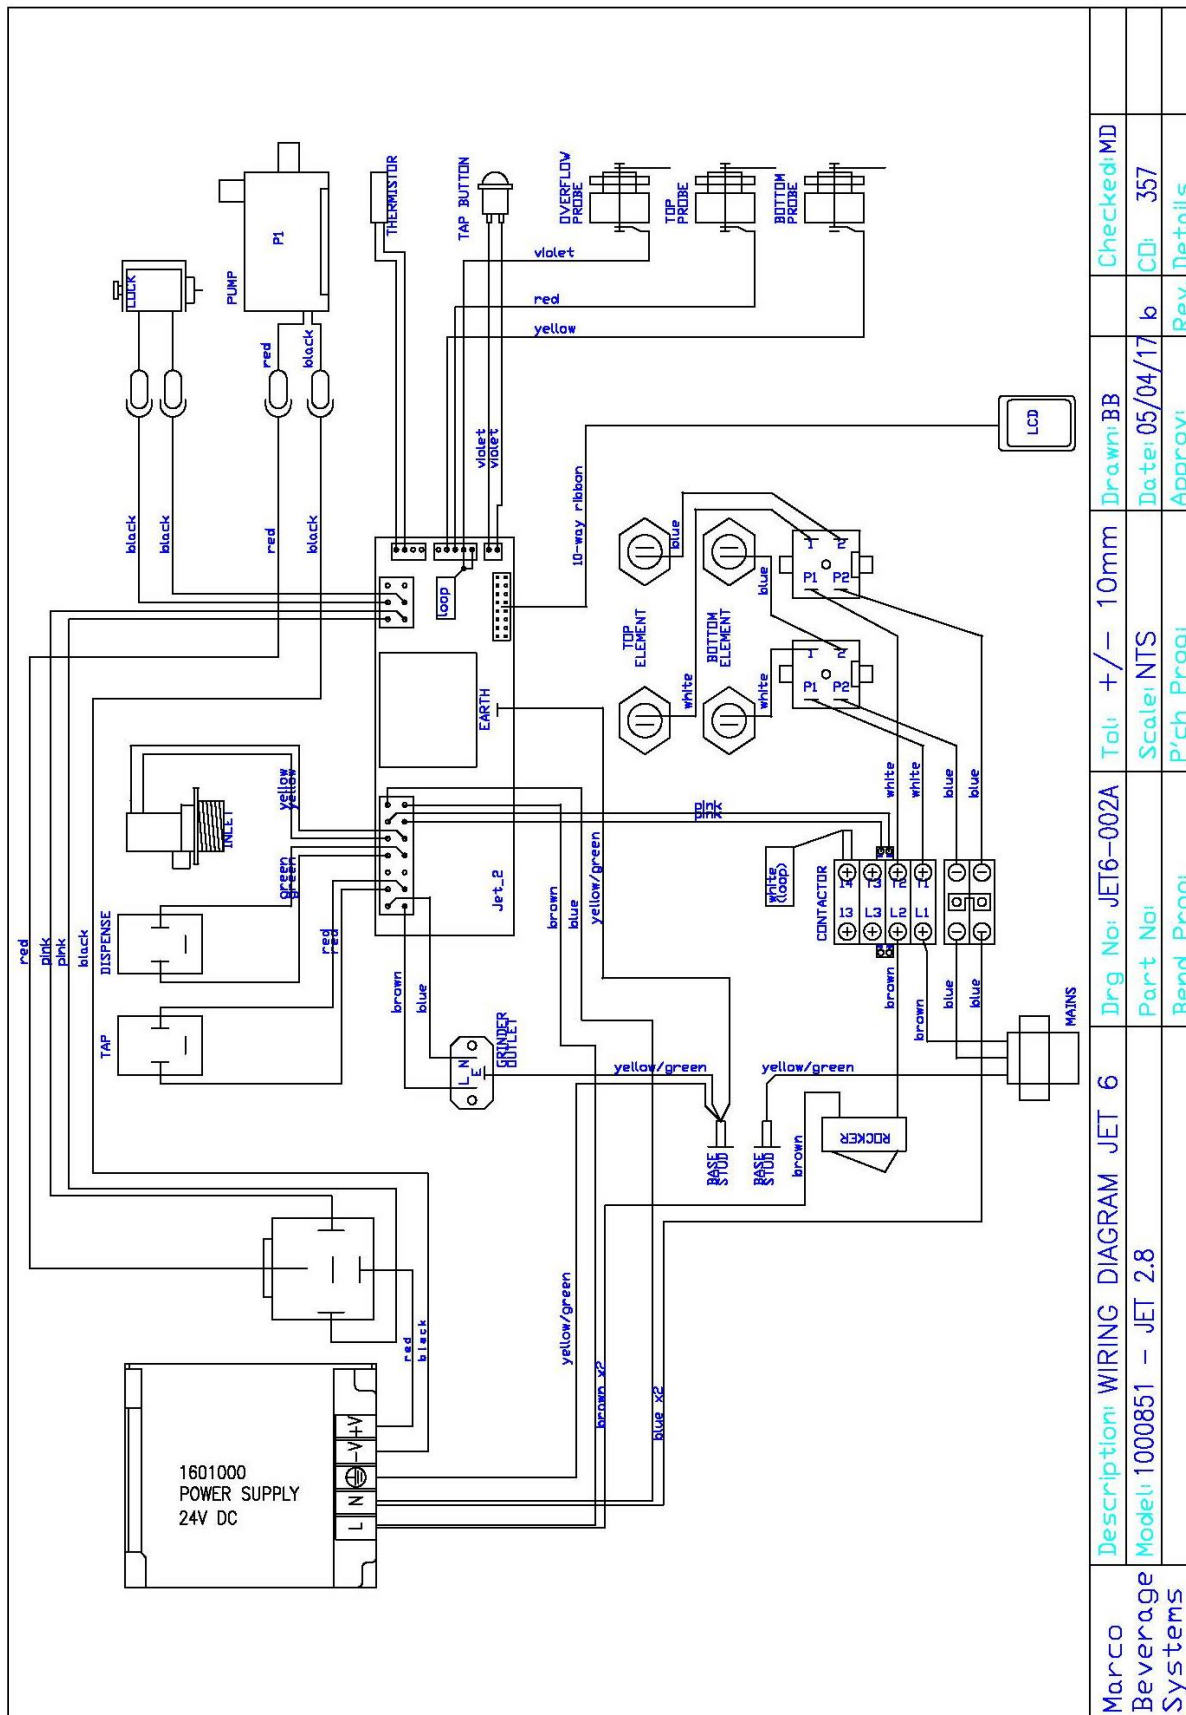
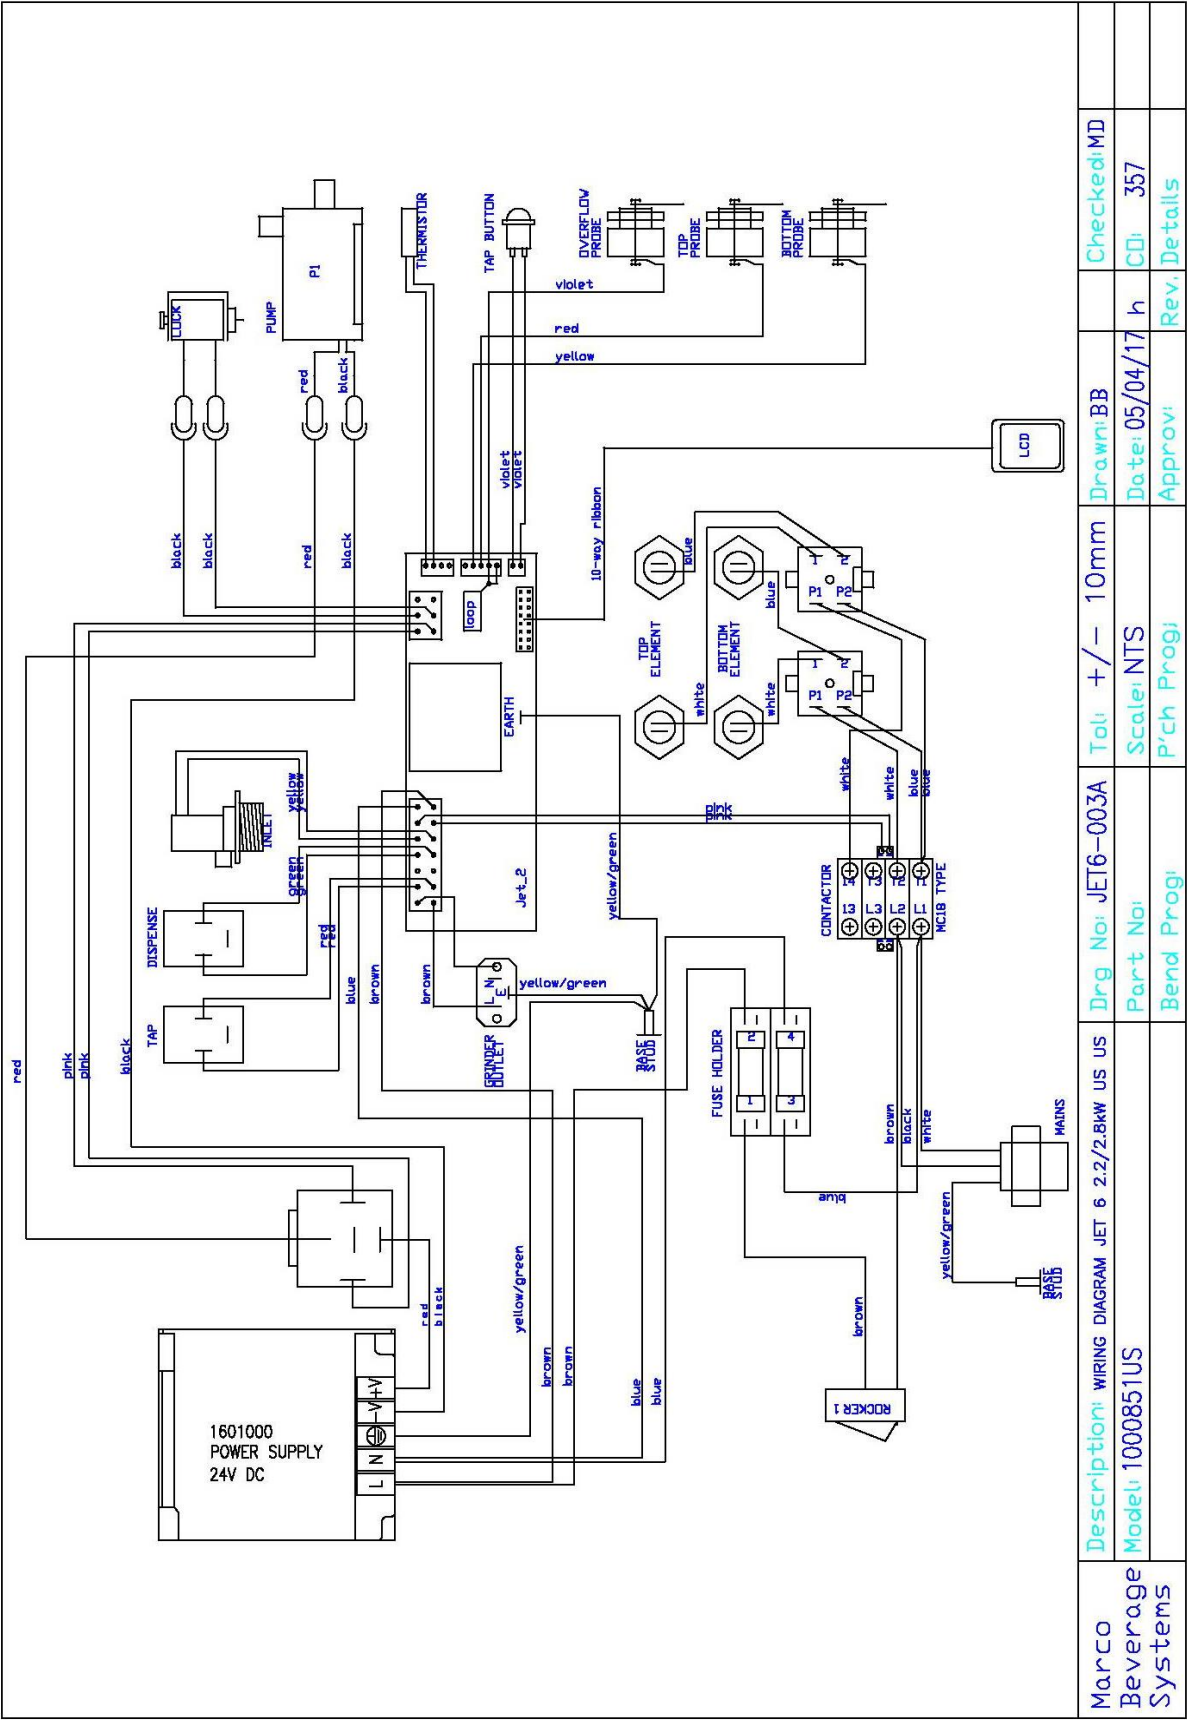

Fig 5.0 EU
Fig 6.0 USA
- Remove the main PCB board cords and cables (Take a photo of the arrangement if unsure how to reinsert). Wiring diagram included, Fig 5.0 for EU & Fig 6.0 for USA(2 parts)
- Locate the new PCB board onto the 6 plastic mounting clips and reinsert the cables/ cord into the correct locations.(Use the photo previously taken if unsure) Make sure the battery is inserted into new main PCB board. See fig 4.0 for battery location. Wiring diagram included Fig 5.0 for EU & Fig 6.0 for USA (2 parts) for any clarifications on PCB.